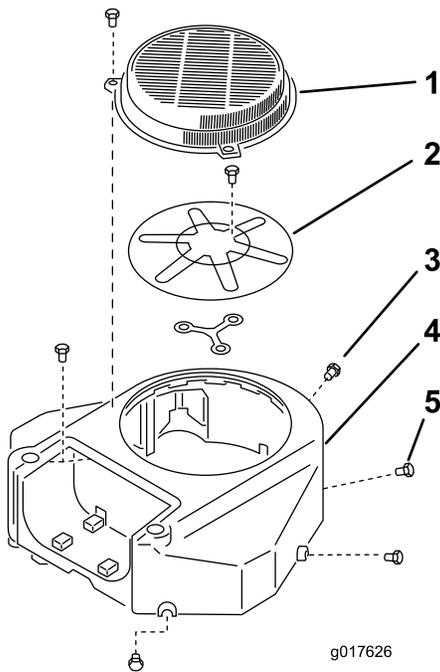

Figure 61
3. Remove the air-intake screen and the fan housing (Figure 61).
5. Install the air-intake screen and fan housing (Figure 61).